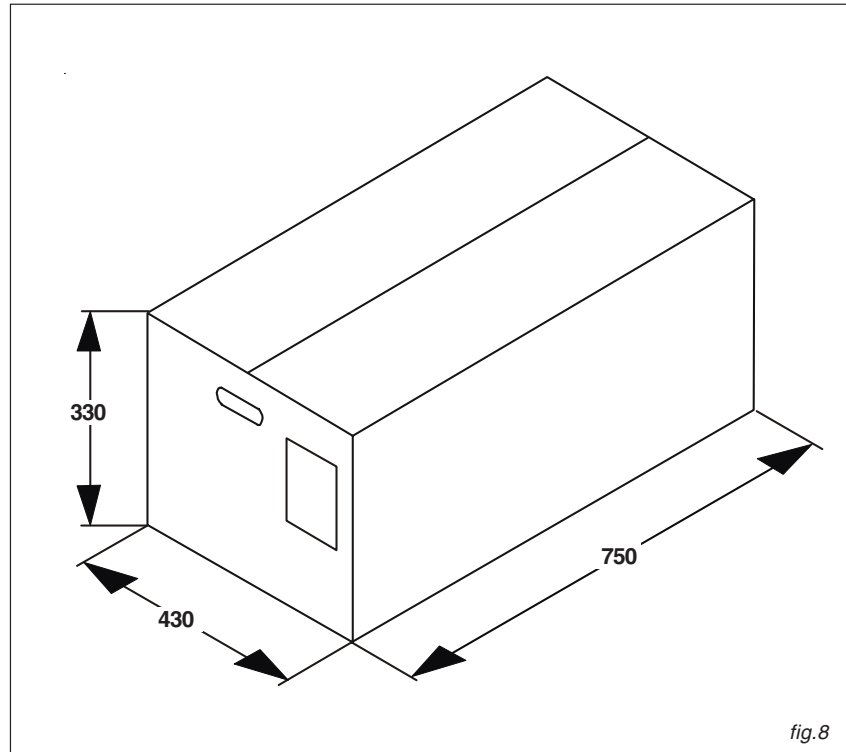

fig.8
- the draught terminal must overlap the connection to the boiler by at least 1.5 m (see fig. 8).